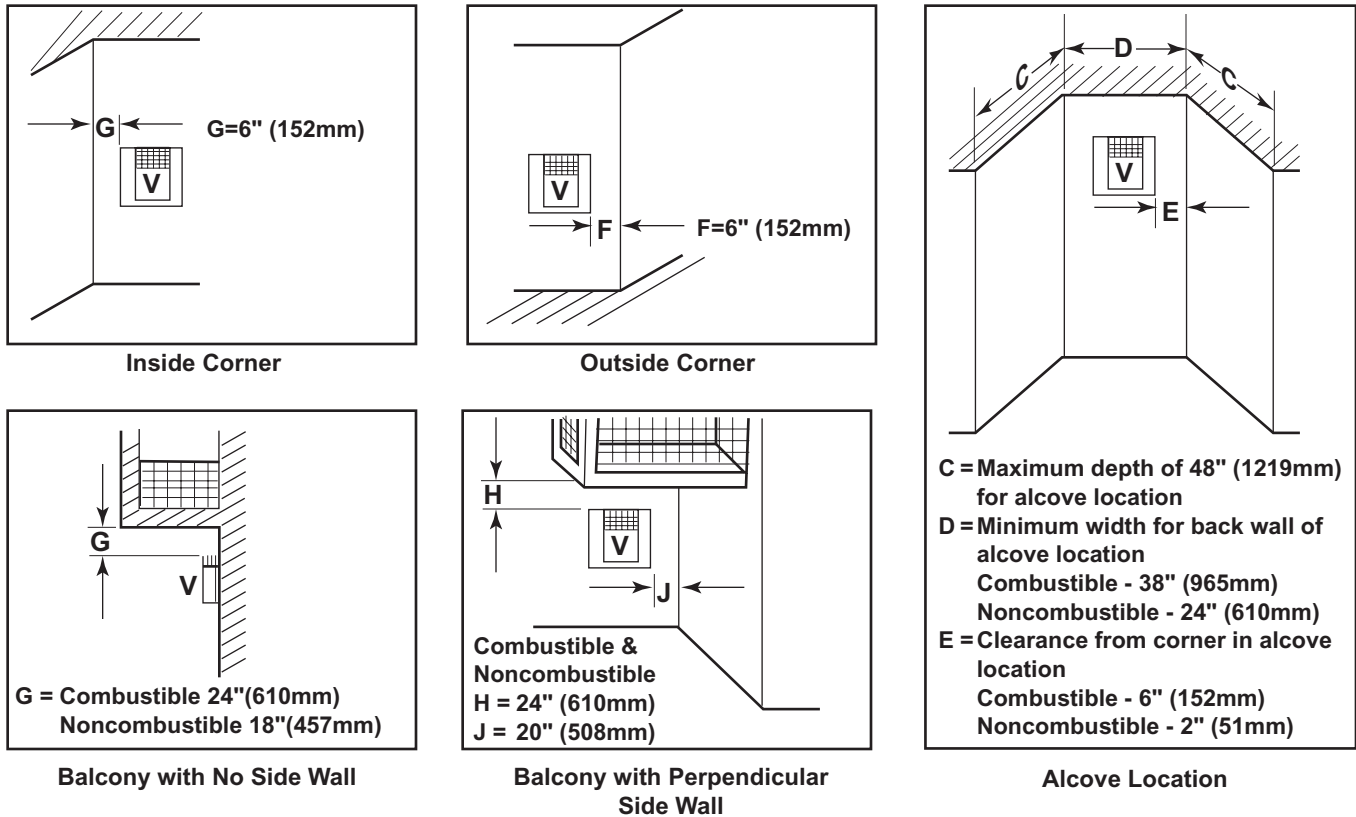

Figure 12 - Allowable Venting Chart
- D = Vertical clearance to ventilated soffit located above the terminal within a horizontal distance of two (2) feet (610mm) from the centerline of the terminal [18" (457mm) minimum].
- F = Clearance to an outside corner. See Figure 12.
- G = Clearance to an inside corner. See Figure 12.
- H = *Not to be installed above a gas meter/regulator assembly within three (3) feet (914mm) horizontally from the centerline of the regulator.